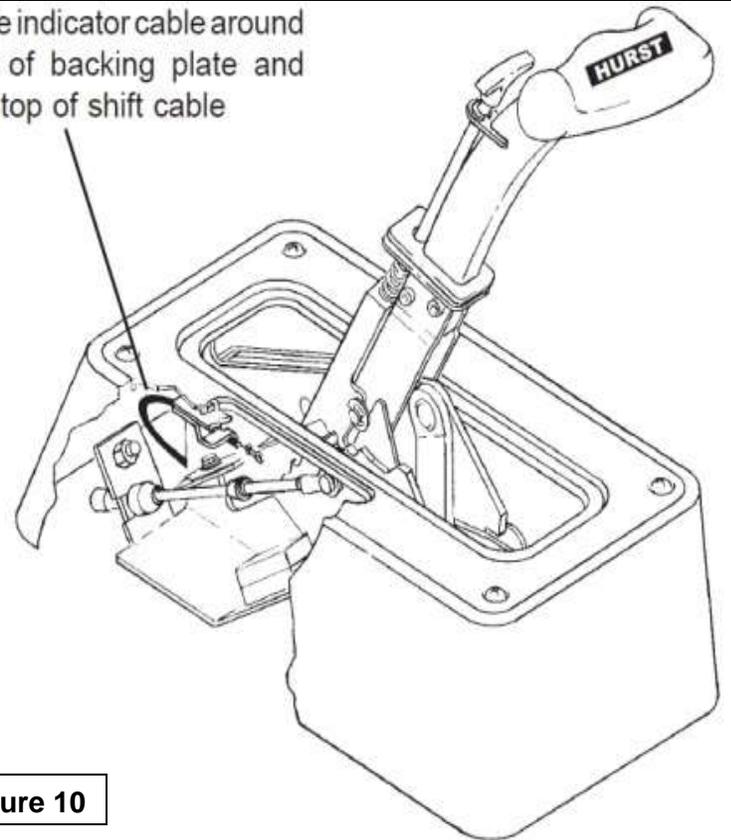

Figure 10
30. Snap the shift position window into the cover plate. The window snaps in from the top with tabs inserting into slots at either end of the window opening. Place the shifter in the Park position then remove the T-Handle from shifter. Place the cover plate over the stick and onto the top of the tower. Route the indicator cable as shown in Figure 10. (If the cable is not routed this way, the indicator may bind.) Run the shifter through all of the gears to check the operation of the indicator. If the indicator needs adjustment, loosen the screws holding the indicator cable clamp to the cover plate and slide the cable bracket to adjust the indicator position. (Retighten these screws carefully since they are threaded into plastic.) Attach the cover plate to the tower with four Phillips head screws.